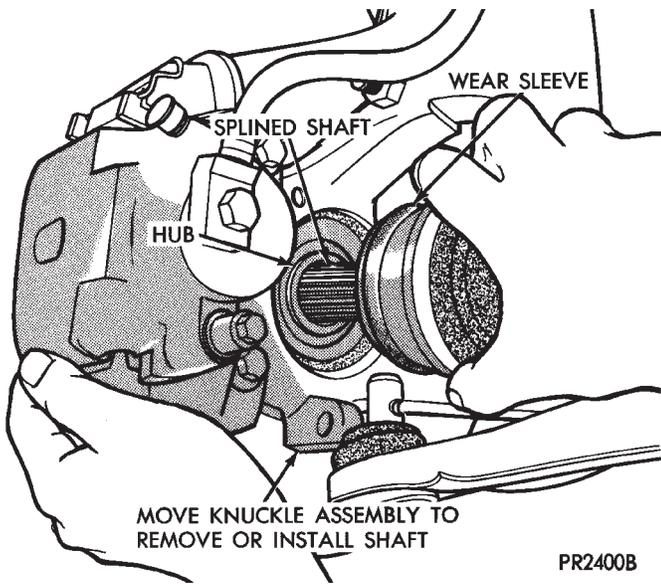

Fig. 7 Separate Outer C/V Joint Shaft from Hub
(4) Separate outer C/V joint splined shaft from hub by holding C/V housing while moving knuckle (hub) assembly away (Fig. 7).